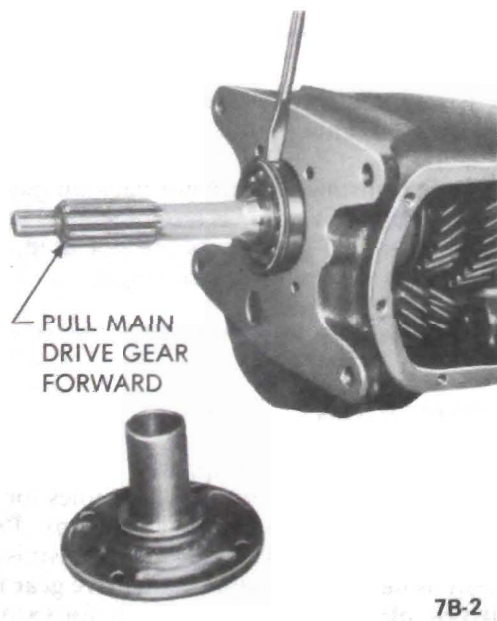

Figure 7B-2 Removing Front Main Bearing
5. Remove front main bearing by pulling main drive gear out of case as far as possible. See Figure 7B-2.